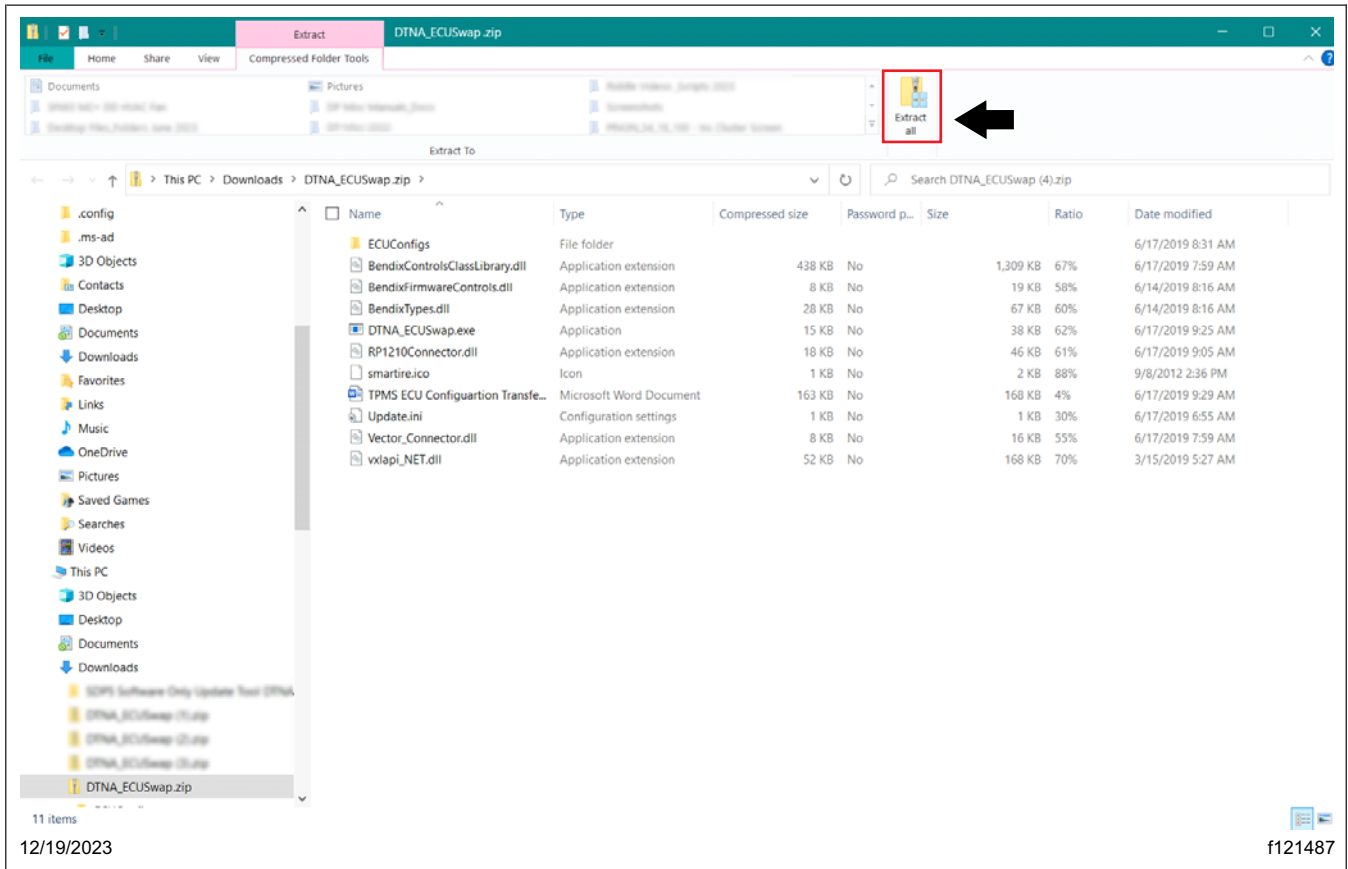

Fig. 19, Extracting the Contents from the Zip File
1.9 Select 'Extract all' located at the top of the window to extract all the contents from the zip file. See Fig.19.